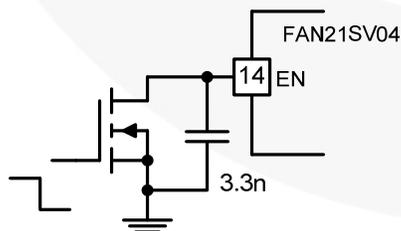

Figure 30. Enabling with External Control
FAN21SV04 has an internal pull-up to the enable (EN) pin so that the IC is enabled once  $V_{IN\_Reg}$  exceeds the UVLO threshold. Connecting a small capacitor across EN and AGND delays the rate of voltage rise on the EN pin. The EN pin also serves for the restart whenever a fault occurs (refer to the *Auto-Restart* section). If the regulator is enabled externally, the external EN signal should go HIGH only after  $5\text{ V}_{Reg}$  is established. For applications where such sequencing is required, FAN21SV04 can be enabled (after the  $V_{CC}$  comes up) with external control, as shown in Figure 30.